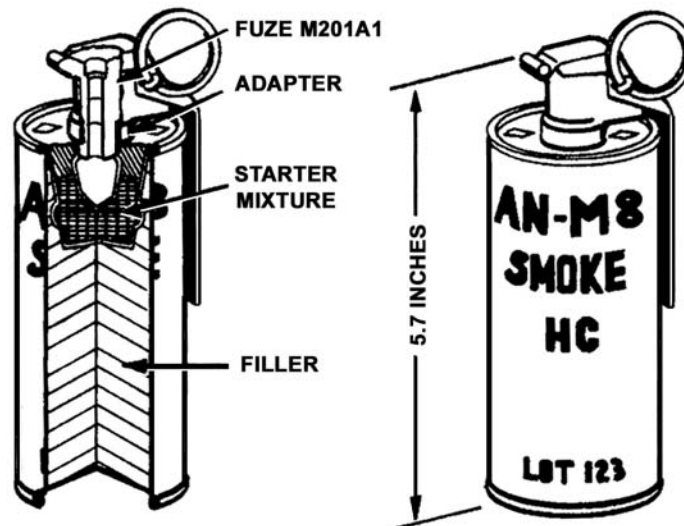

Figure 8. AN-M8 HC white smoke grenade.
- d. AN-M8 HC White Smoke (Figure 8). The grenade emits a dense cloud of white smoke for 105 to 150 seconds. This grenade can be used for signaling and screening.